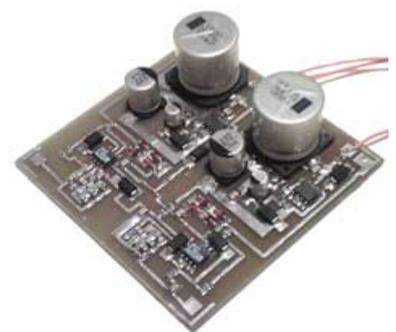
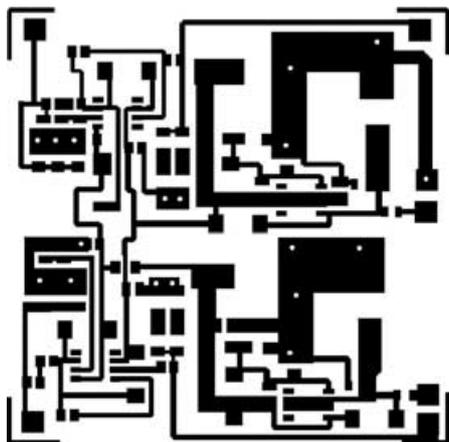
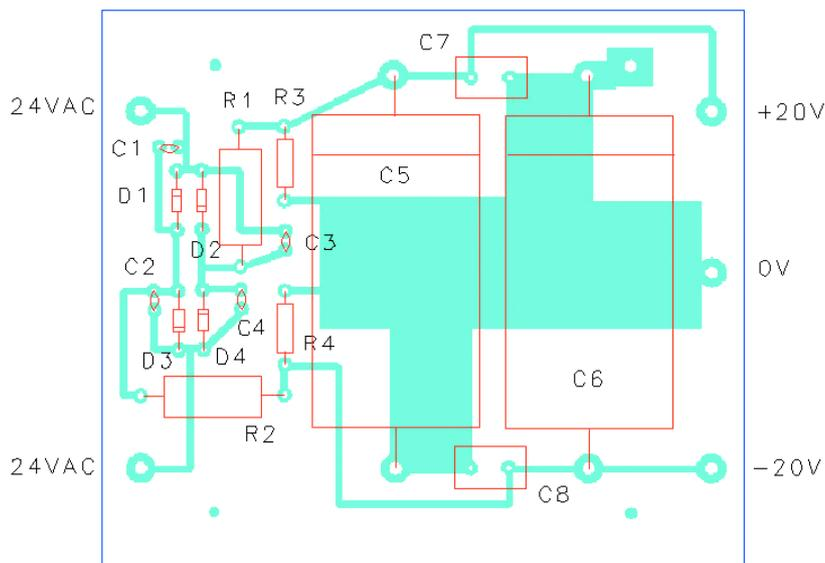

Figure 1 - The completed SM LR PCB
Figure 16 (Actual size)
Figure 17
**Note** that the SM circuit is built on double-sided standard FR4 PCB board with the underside ground-plane remaining intact to allow earth connections. The earth connections of the component side are completed by drilling a 0.8 mm hole through the board and linking the two layers with a piece of copper tape or wire. The PCB layout is shown in Figure 16 and the completed PCB assembly in figure 1.
As described above, the original PSU section was built on *Veroboard*. My latest design uses a single-sided PCB measuring 85 x 75 mm; the component side is shown in figure 16 and the foil side in figure 17. (The 4 fixing hole positions are 65 x 65 mm). The PCB is mounted in a die-cast box with the mains fed through a fused IEC connector. The a.c. mains is wired to the primary of the transformer. You must ensure that any exposed connections are insulated with heat-shrink sleeving. Make sure that the secondary transformer connections are made correctly, so that the rectified voltage outputs of the PCB are approximately +20V and -20V. The completed PCB assembly is shown in Figure 10.